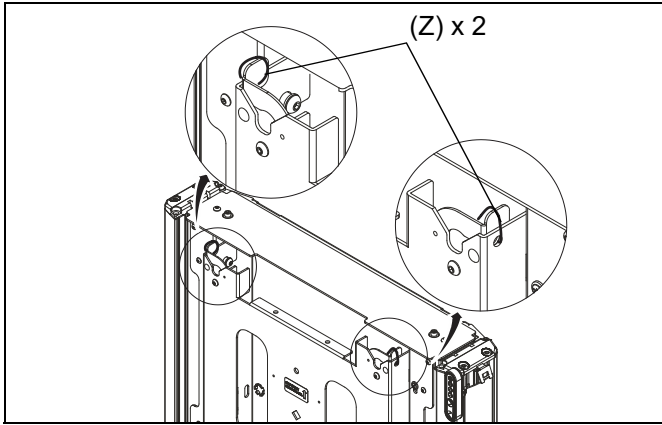

Figure 23
IMPORTANT ! : Manufacturer recommends using cable ties (Z) to secure the latching flags in closed position on both sides if padlock is not being used. (See Figure 23)